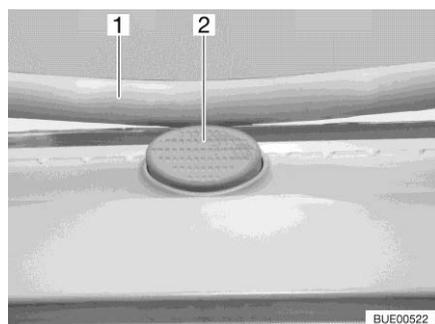

Fig. 64 Safety knob (Heki skylight)
- Press the safety knob (Fig. 64,2) and pull the bar (Fig. 64,1) down with both hands.
- Push the bar upwards with both hands until it is above the safety knob (Fig. 64,2).